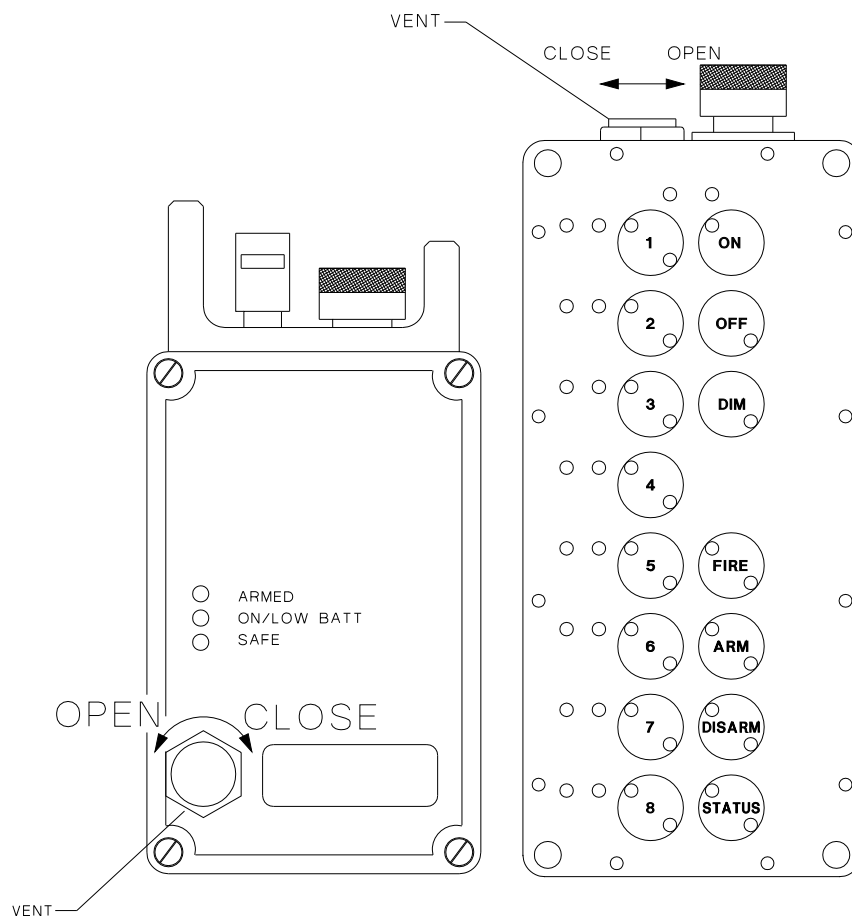

Figure 2-14 Vent Operation
2.11.1. In Figure 2-14, the unit vents shown are manually operated and relieve internal pressure due to heat and altitude. When the vent is closed, it will not leak in 100 feet of water (30 meters) or up to 30,000 feet (9,100 meters) in altitude.